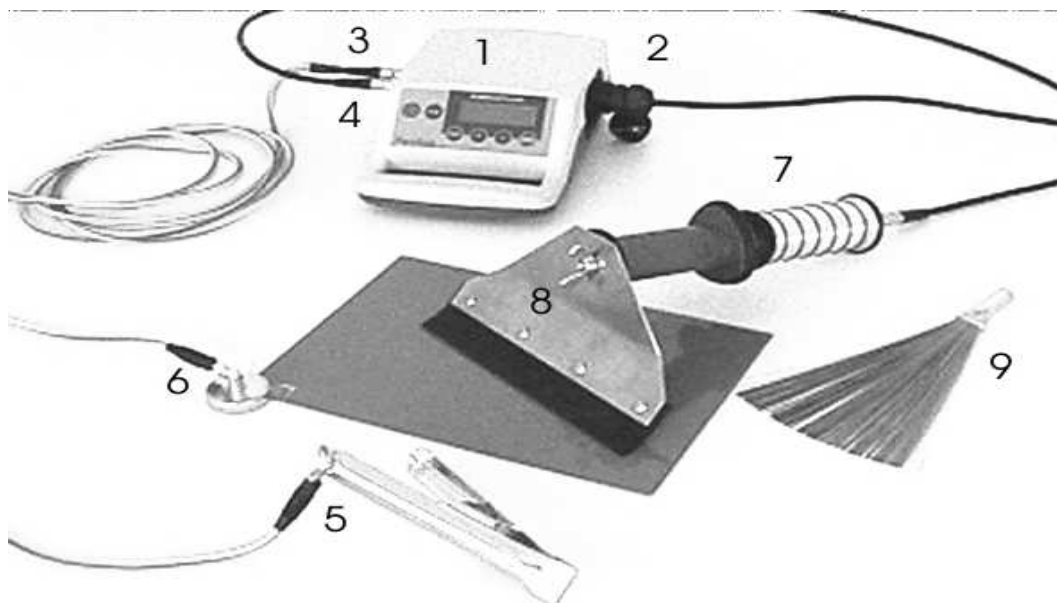

Fig. 1
3. Use the wing nut to connect the test electrode to the high voltage probe (Fig. 1). The metal sweeper electrode can directly be connected to the high voltage probe.